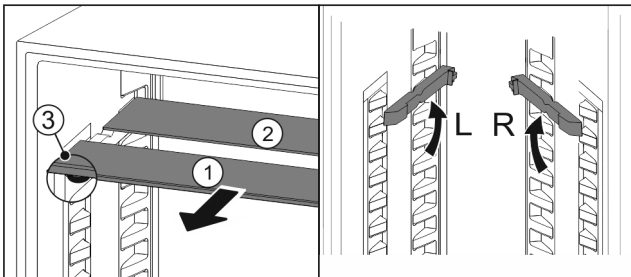

Fig. 75
- ▶ Pull the glass panels out Fig. 75 (1) from the front, one at a time.
- ▶ The glass panel Fig. 75 (1) with the trim strip is at the front.
- ▶ The stops Fig. 75 (3) point downward.